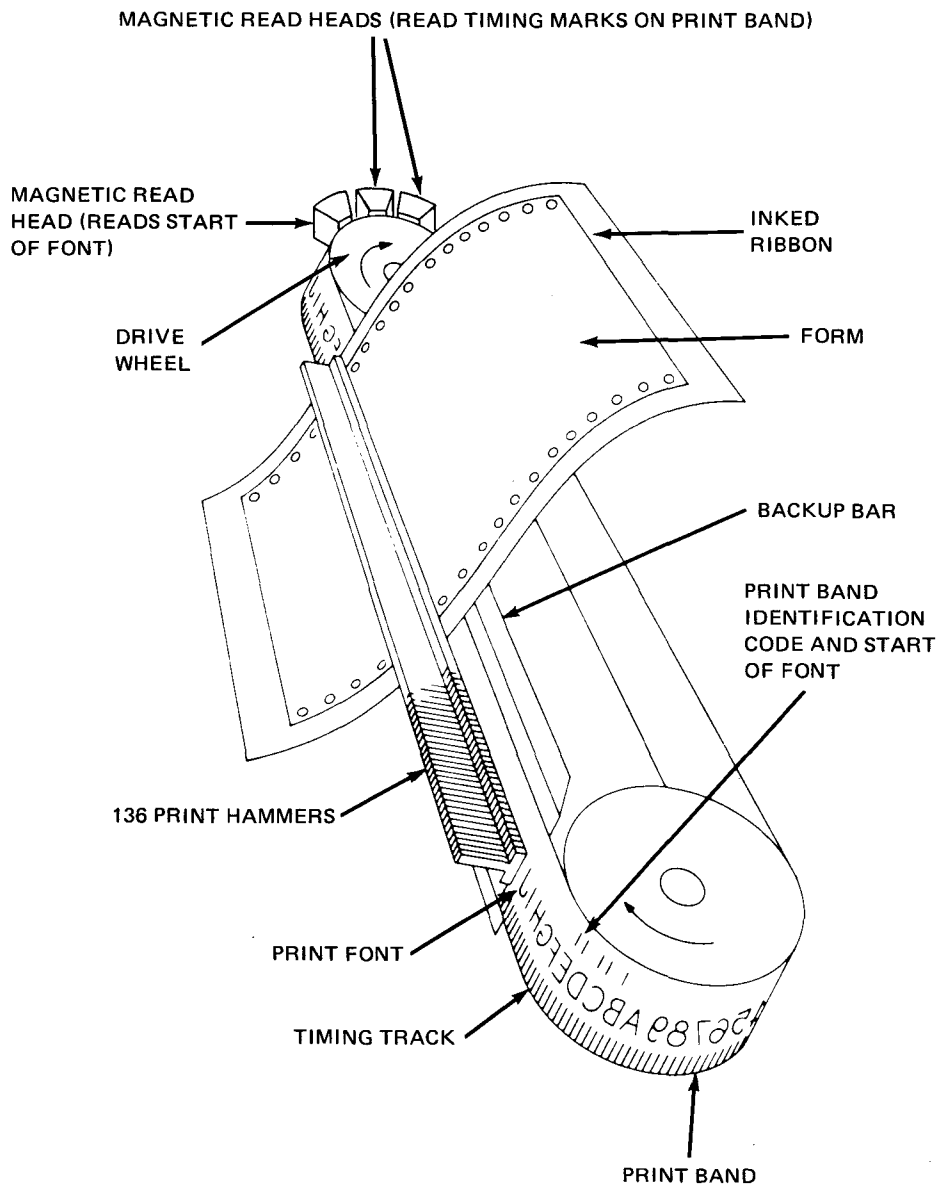
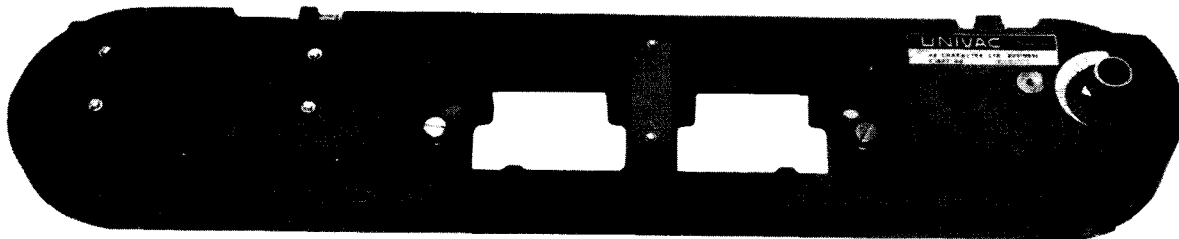

Figure 2-1. Impact Printing Technique
Figure 2-2. Print Cartridge Assembly
The 0776 printer operates at a throughput rate of 760, 940/900, or 1200 lines/minute (lpm) with a 48-character array, depending on the printer selected. The printer is the impact type in which the print hammers (136) strike the rear of a form pack, forcing the pack into contact with an inked ribbon and the etched characters on the moving print band (Figure 2-1). Printing occurs asynchronously (not dependent on initial position of characters on moving print band) when a selected character aligns with a selected column position. The print band is a flexible horizontal-moving metallic band with etched characters mounted in an interchangeable print cartridge assembly (Figure 2-2). The assembly is mounted on a swing-out carriage for accessibility.
The printing mechanism consists of the print hammer/actuator assembly and the print carriage assembly (Figures 2-1 and 2-3).